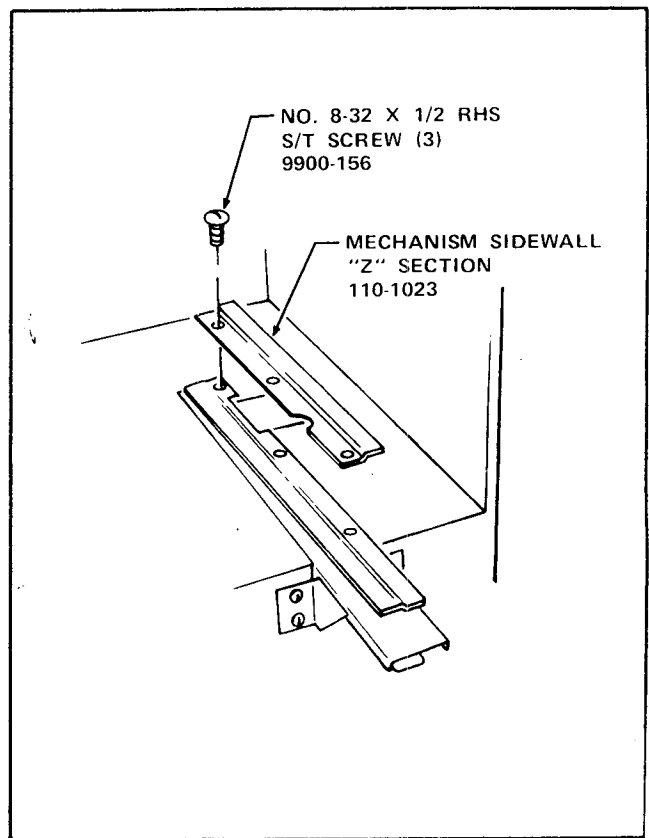

FIGURE 6-8
48. Remove three Screws from the Mechanism Sidewall "Z" Section in the lower right corner of the Merchandiser and install the Mechanism Sidewall "Z" Section, Part Number 110-1023, included in the Kit, on top of the Mechanism Sidewall "Z" Section already in the Merchandiser. Attach using three No.8-32 x 1/2 RHS Self Tapping Screws, Part Number 9900-156, included in the Kit. See Figure 6-8.